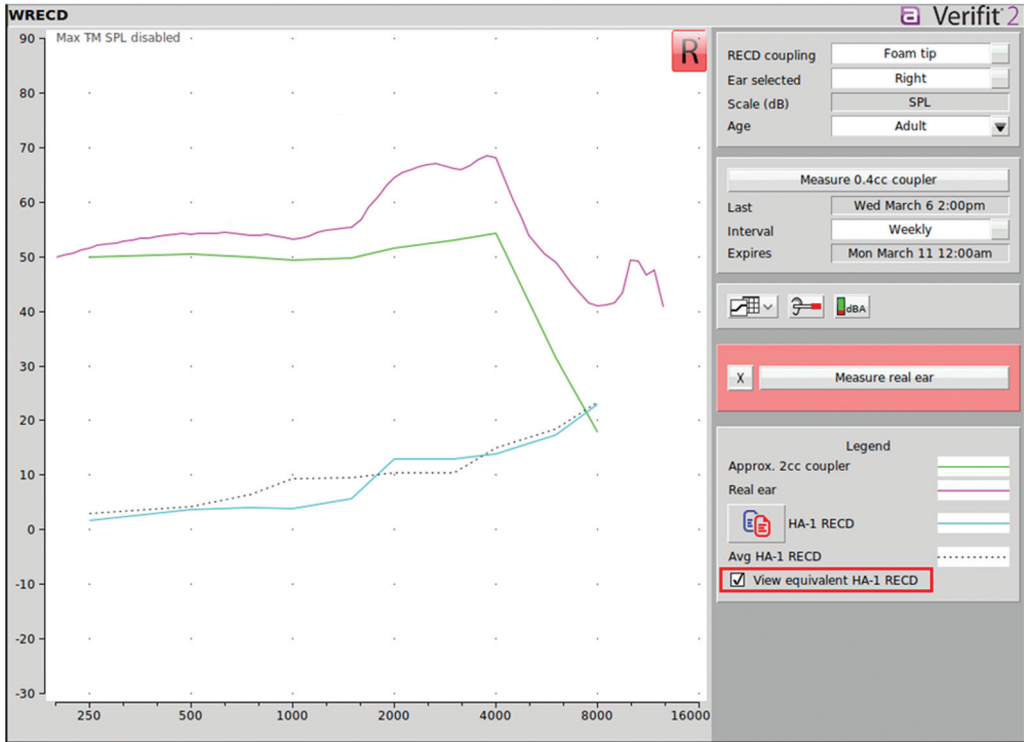

Figure 6 Equivalent HA-1 RECD (accessed by clicking the checkbox highlighted in the bottom right corner).
information through 8,000 Hz). If you want to make a comment about the size of an individual's ear in comparison to a 2-cc coupler ("average"), you need to first convert the WRECD data to RECD data. Fortunately, the Verifit 2 provides an easy and efficient way to make this conversion (Figure 6) and an easy way to compare the numbers in table format (Figure 7).
If the SPL measured in the real ear is louder than the SPL measured in the 2-cc coupler (i.e., more sound pressure build-up in the individual's ear than in the 2-cc coupler) as in the example illustrated in Figures 6 and 7, then we can assume that the individual's ear is smaller than the 2-cc coupler. RECD, however, is a measure of SPL, not size. When the system converts the dB HL audiometric data (thresholds and UCLs) to dB SPL, this difference (along with RETSPL, reference equivalent threshold in sound pressure to 2-cc coupler; see Chapter 3) will be used for this accurate conversion. This will now provide you with the individual's dynamic range in dB SPL and will allow for accurate fitting targets to be generated. If RECD is not obtained and applied to the audiometric data, the hearing aid may be over- or under-fit without the clinician knowing.
- Convert your WRECD results to equivalent HA-1 RECD (Figure 6). Given the RECD values that you measured, do you think that average RECD values would have produced different results regarding the hearing aid fitting?